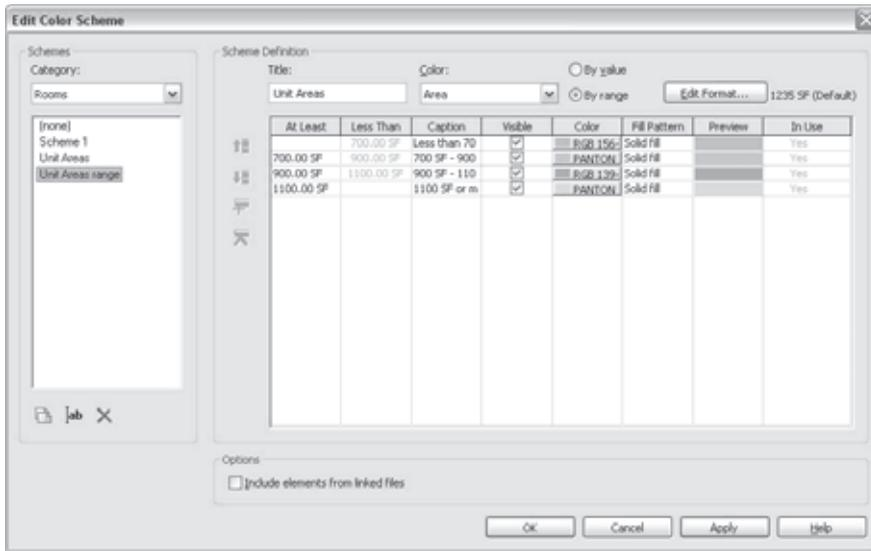

Figure 8.7
7. The new value defaults to 1400. Change it to **900**, and click OK. Add one more row using the same method, and set the At Least range to **1100 SF**. Your settings should be similar to the ones in Figure 8.7.